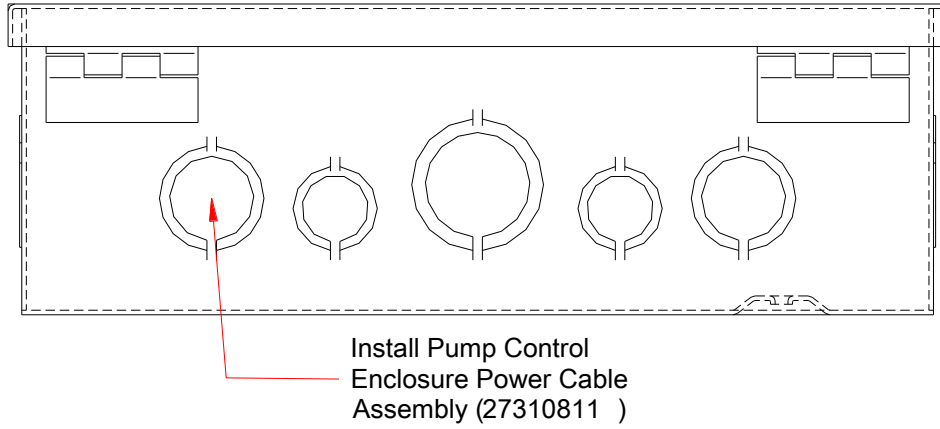

Figure 26 - Pump Control Power Wiring To CPU.
1. Identify the Pump Control end of the Pump Control Enclosure Power Cable Assembly (27310811) with approximately 8" of wiring outside of the conduit. Using the identified end of the cable, install cable through the conduit opening shown in Figure 26.